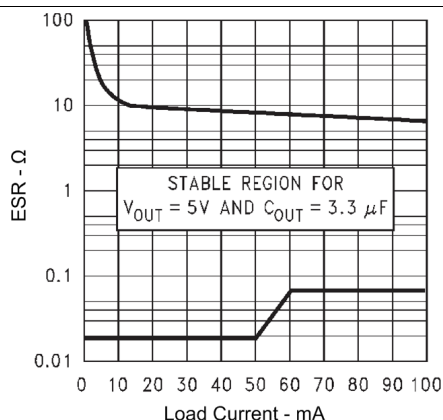
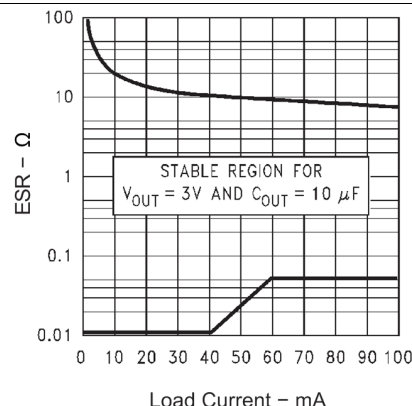

Figure 5. 5-V/3.3- $\mu\text{F}$  ESR Curves
Figure 8. 3-V/10- $\mu\text{F}$  ESR Curves
As a PNP regulator, the LP2981 requires the output capacitor to meet both a minimum capacitance and ESR value. Required ESR values as a function of load current are provided for various output voltages, load currents, and capacitances (see Figure 5 through Figure 8).
- ESR range: see Figure 5 through Figure 8